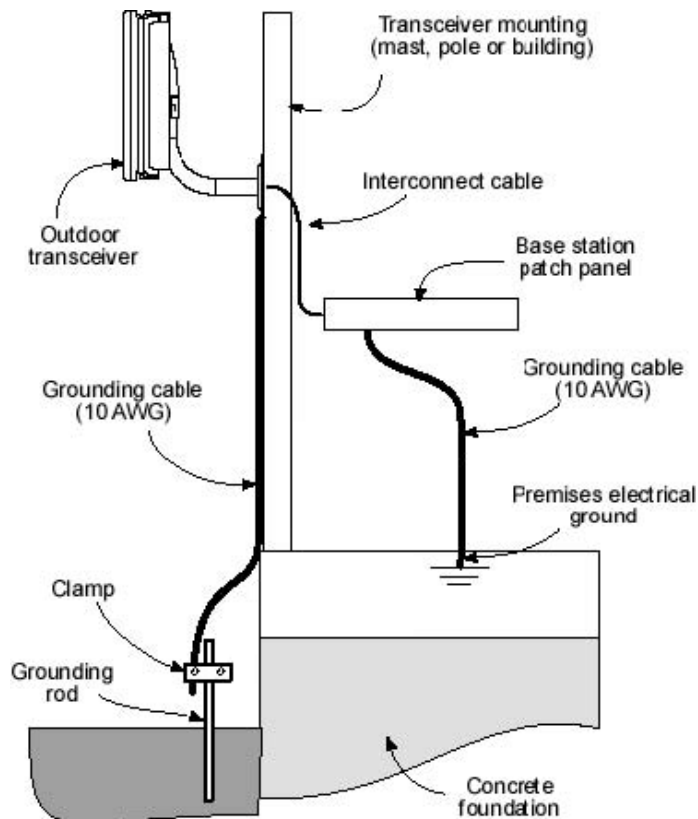

Figure 7-1 Ground Connections to CPE Transceiver
- 1) Grounding all the outdoor transceivers as shown in Figure 7-1.
- 3) Attach a grounding clamp to the grounding rod. You will use this clamp to attach grounding wires for both the outdoor transceiver and indoor wallbox, reference Figure 7-1.